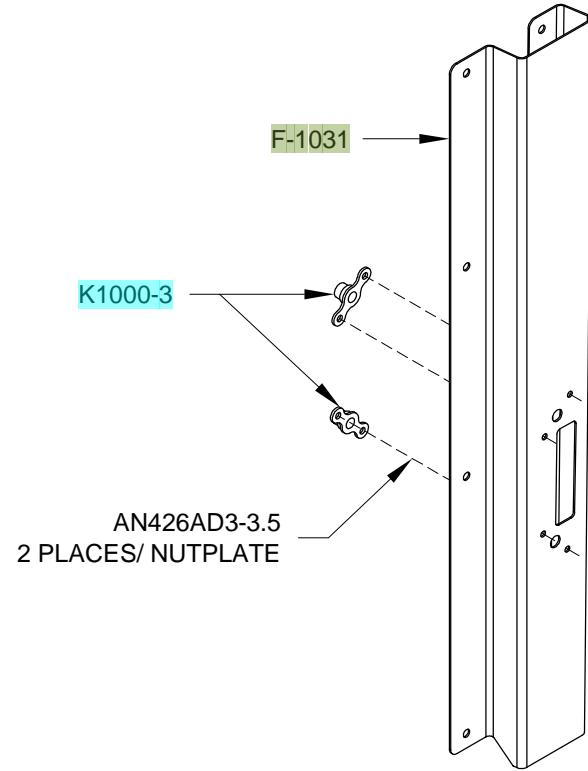

FIGURE 1: RIVETING NUTPLATES TO THE UPPER BAGGAGE DOOR SEAL CHANNEL
Step 2: Rivet in place the F-1024 Seat Floors, the F-1022A Baggage Floors, and the F-10103A Lower Seat Hinge Halves using only the rivets called-out in Figure 1. The remainder of the seat floors are riveted in a later section.
Step 1: Install the nutplates shown in Figure 1 using the rivets called-out.
Step 2: Set the five rivets in the aft flange of both F-1022A Baggage Floors using the rivets called-out in Figure 1.